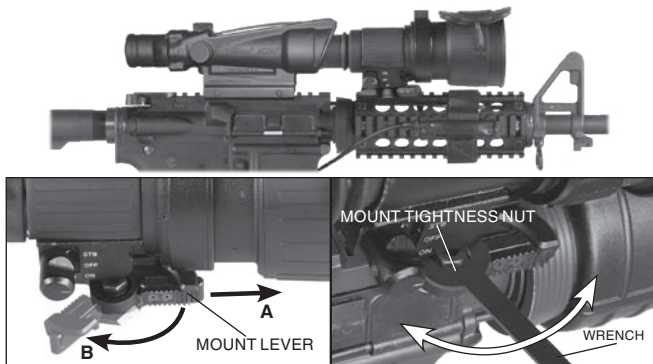

FIGURE 2-1. PS-22 INSTALLED ON MIL-STD-1913 RAIL FORWARD OF TRIJICON ACOG
1. Slide the locking button of mount lever forward (Figure 2-1, arrow A). Turn the mount lever backwards to open the mount (Figure 2-1, arrow B).